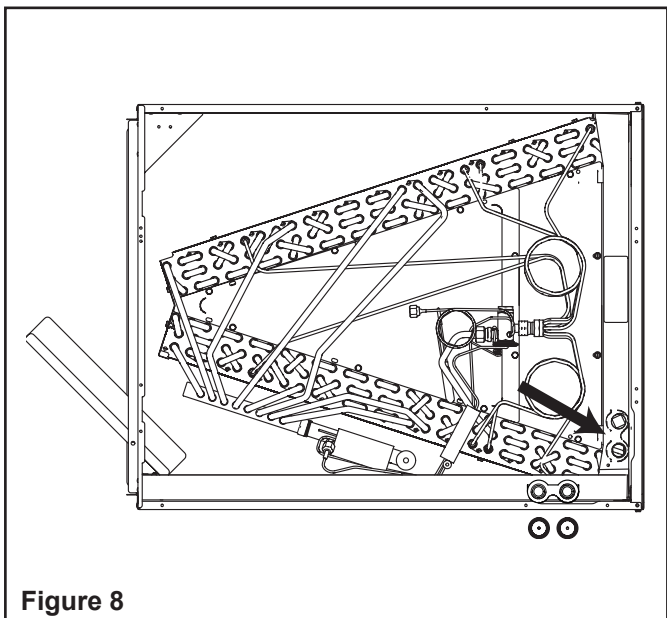

Figure 8
- Remove the Side-Pull Plugs from the Horizontal Drain Pan and install into downflow drain pan as shown in Figure 8. Put front panels back on.